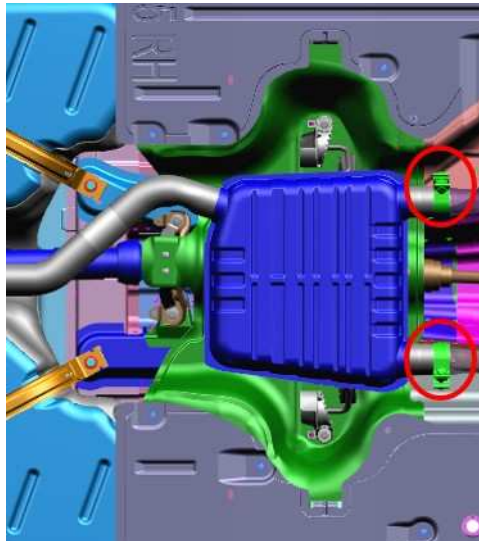

**Fig. 10**
5. Remove the two fasteners securing the right rear floor pan heat shield to the body (Fig. 10) .